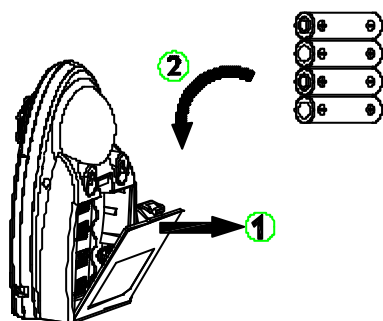

Fig. 3
1. Open the battery compartment cover on the rear of the camera. (Fig. 3)
2. Insert 4 AA-size batteries, ensuring that correct polarity is put. (Fig. 3)